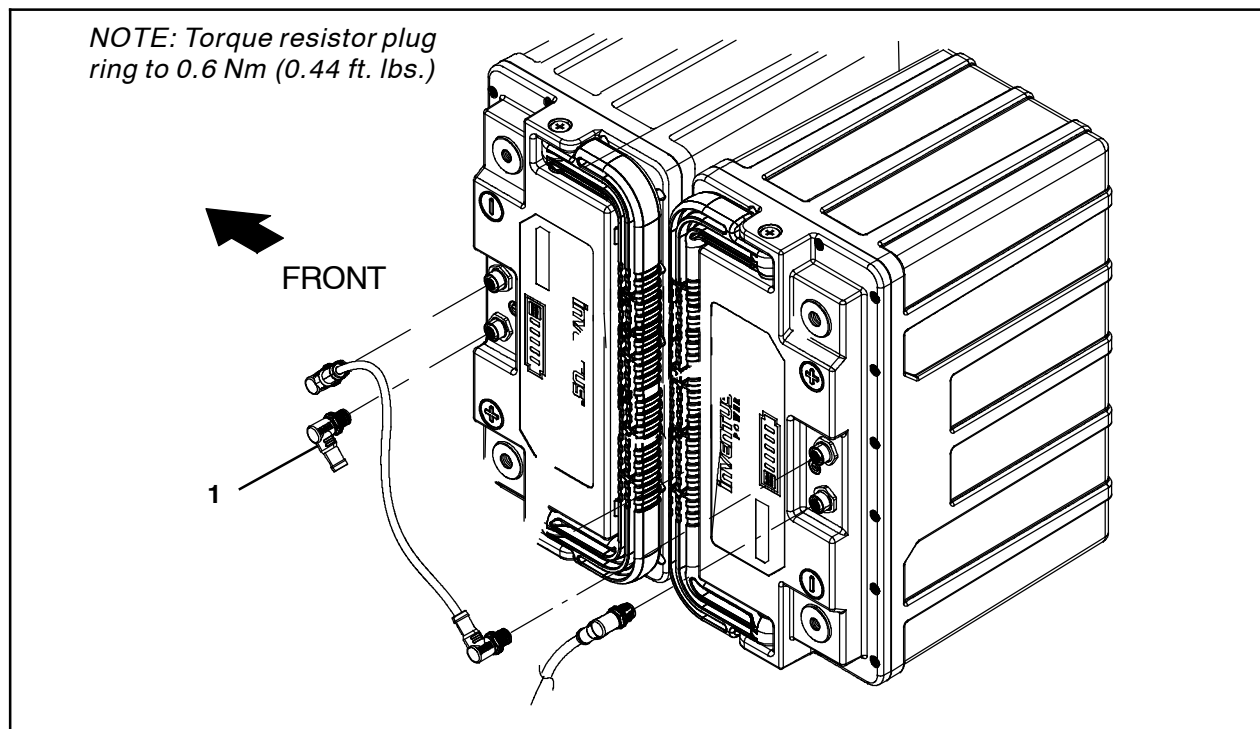

FIG. 11 - T7AMR
1. Disconnect the resistor plug from the lithium battery communication terminal. Turn ring on resistor plug counterclockwise to loosen/disconnect. Discard the removed resistor plug. (Fig. 10/Fig. 11)
2. Connect the new resistor plug (1) to the lithium battery communication terminal where the removed resistor plug was previously located. Turn ring on resistor plug clockwise to tighten/connect. Torque resistor plug ring to 0.6 Nm (0.44 ft. lbs.). (Fig. 10/Fig. 11)